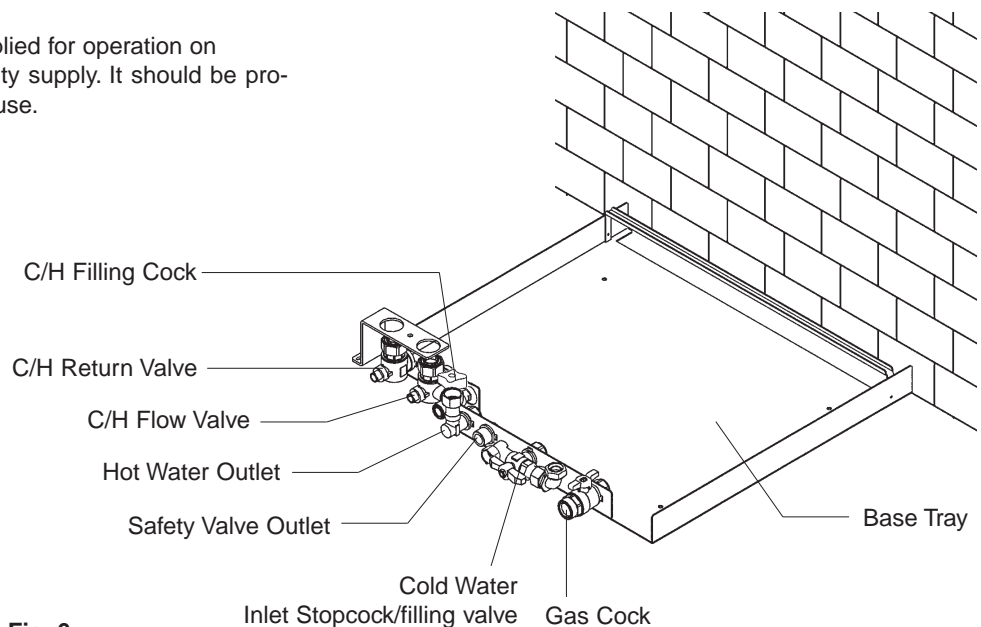

Fig. 6
To remove the base plate from the appliance, push to release the control panel door, locate the small tool inside and undo the two screws securing the front panel to the appliance and remove. Loosen and undo the Central heating flow and return unions, cold water inlet union, hot water outlet union, gas union and safety valve union. See figs 6 & 10.
5.3.1 The appliance is floor standing. Place the base plate on a smooth firm and level surface. The back of the base tray can be pushed flush against the back wall if necessary (this will still allow piping behind the appliance see figs 6 & 11). Special floor protection is not required and the floor must be capable of supporting the weight of the appliance See section 3..
5.3.6 Figs. 6 and 15 show the locations of the fittings.